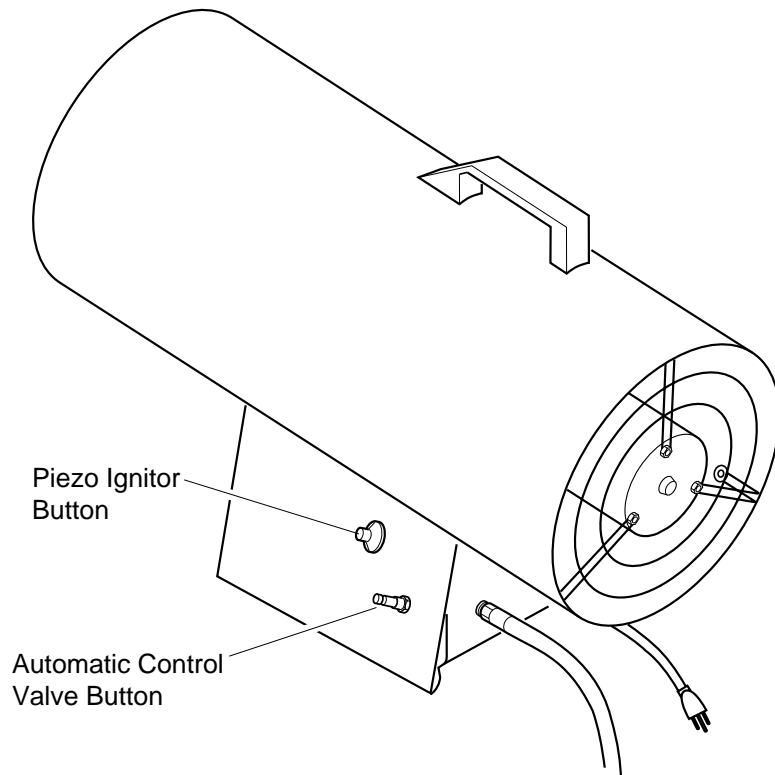

Figure 5 - Automatic Control Valve Button and Piezo Ignitor Button
6. Push in and hold automatic control valve button (see Figure 5). Push piezo ignitor button (see Figure 5). You may need to push piezo ignitor button 3-8 times until the burner lights. When burner lights, keep automatic control valve button pushed in. Release button after 30 seconds.